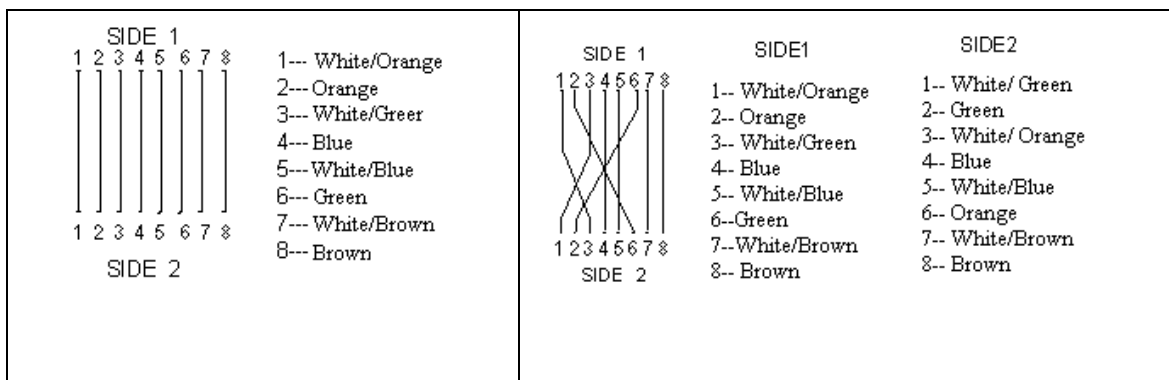

Figure 7-4 Wiring of straight cables (left) and crossover cables (right)
- (1) Standard network interface.
- (2) The IP address of power supply as ex-factory is 192.168.0.253. The subnet mask is 255.255.255.0, and the port number is 10001. To use customized IP address or port number, the user shall designate in the order or obtain support from the customer service center.
- (3) The same as a PC, the power supply shall be connected with a network via a route and straight cables; or with a PC directly via a crossover cable for communication. The straight cables and crossover cables are prepared as shown in Figure 7-4: